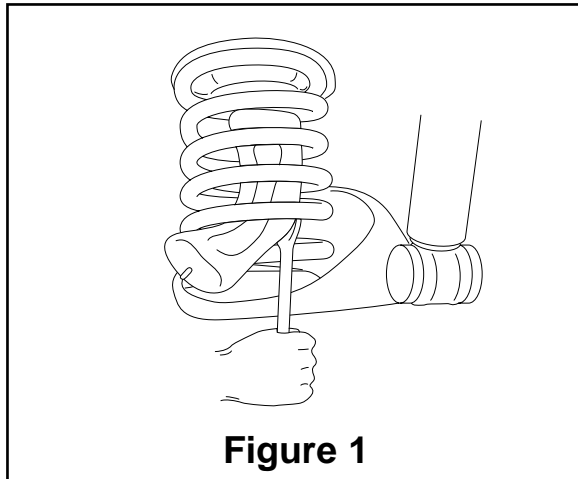

Figure 1
3. Insert flattened air cylinder into coil spring through lowest opening with stem at the bottom (Figure 1).